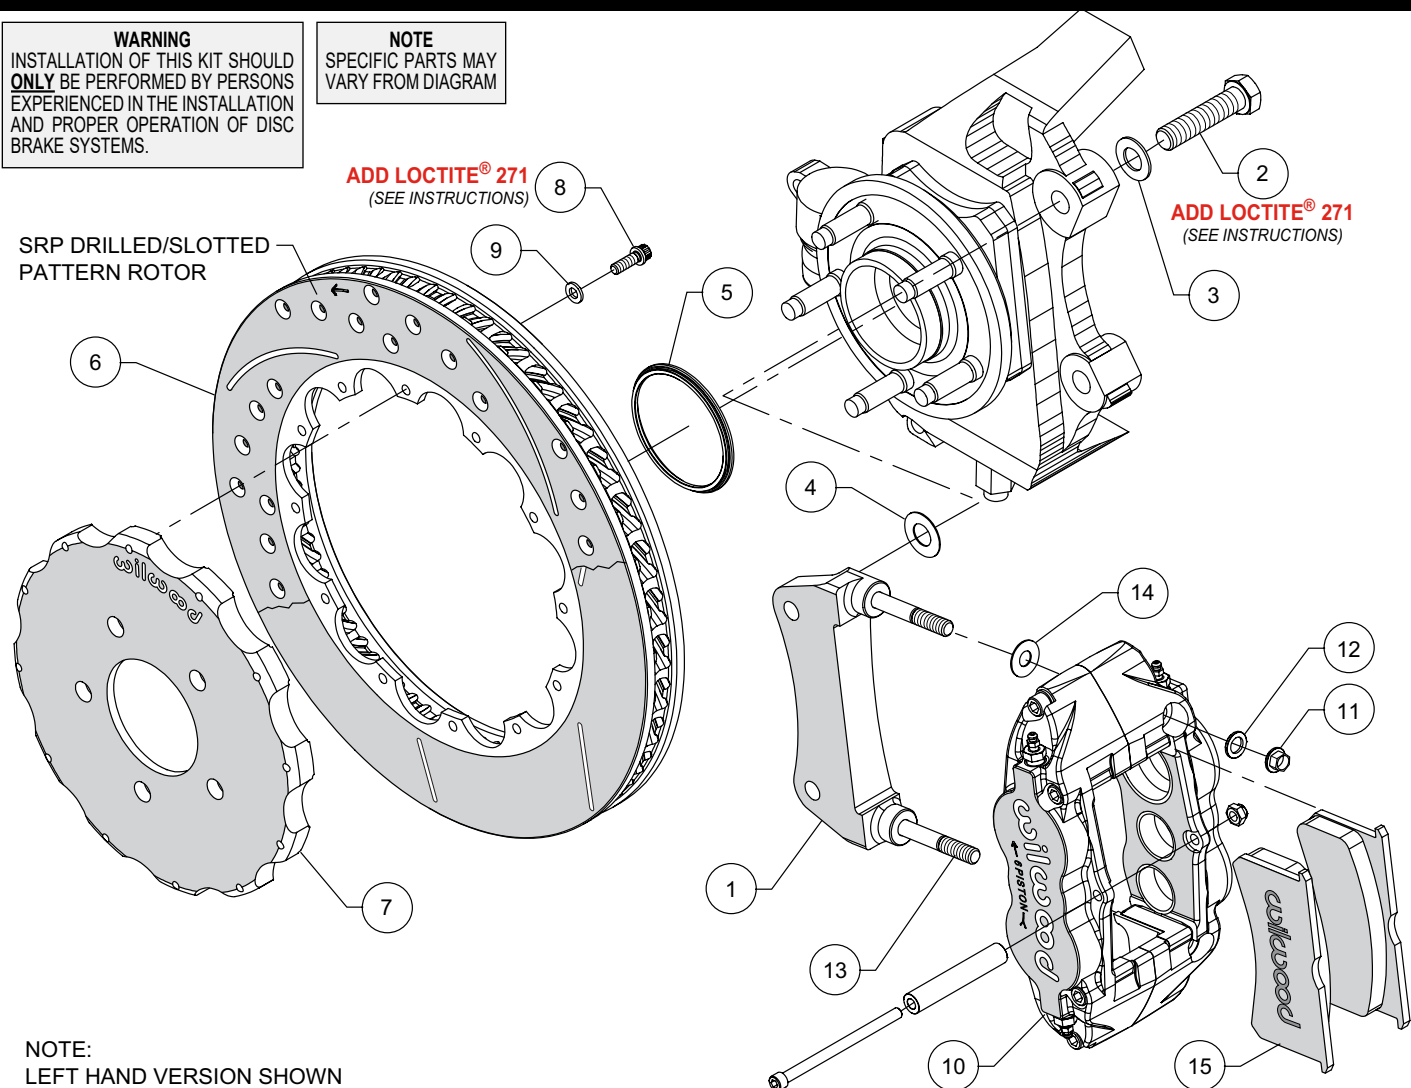
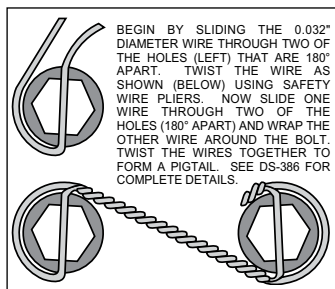

Figure 1. Typical Installation Configuration
Figure 3. Safety Wire Diagram
Assembly Instructions (numbers in parenthesis refer to the parts list and Figure 1 on the preceding pages):
- The caliper mount bracket (1) should initially be installed with clean, dry threads on the mounting bolts. Orient the bracket as shown in Figure 1 and Photo 1, and install using bolts (2) and washers (3). Initially place one .029 thick shim (4) on each bolt between the bracket and upright, Figure 1. Temporarily tighten the mounting bolts. **NOTE:** *The bracket must fit squarely against the mounting points on the upright.* Inspect for interference from casting irregularities, machining ridges, burrs, etc. Later, after the caliper alignment has been checked, the mount bolts will be secured using red *Loctite*® 271.
- Orient the rotor (6) and the hat (7) as shown in Figure 1 and Photo 2. Attach rotor to hat using bolts (8) and washers (9). Apply red *Loctite*® 271 to the bolt threads and torque to 155 in-lb using a criss-cross pattern. For an added measure of security, the bolts may be safety wired using standard 0.032 inch diameter stainless steel safety wire as shown in Figure 3. Please refer to Wilwood's data sheet DS-386 (available at www.wilwood.com/Pdf/DataSheets/ds386.pdf) for complete safety wire installation instructions.
- **NOTE:** *This kit contains distinct right and left hand calipers that must be mounted in a specific direction, as described below.* Initially place one .035" thick shim (14) on each stud (13) between the caliper and the bracket, as shown in Figure 1 and Photo 5. Mount the caliper (10) onto the bracket (1) using lock nuts (11) and washers (12), Figure 1. Ensure that the caliper is mounted so the largest pistons are at the rotor exit end of the caliper, in relation to the direction of rotor rotation. Temporarily tighten the lock nuts and view the rotor through the top opening of the caliper. The rotor should be centered in the caliper, Photo 6. If not, adjust by adding or subtracting shims (4) between the bracket and the upright. Always use the same amount of shims on each of the two mounting bolts. Once the caliper alignment is correct, remove the bracket mounting bolts (2) one at a time, apply red *Loctite*® 271 to the threads, and torque to 77 ft-lbs.